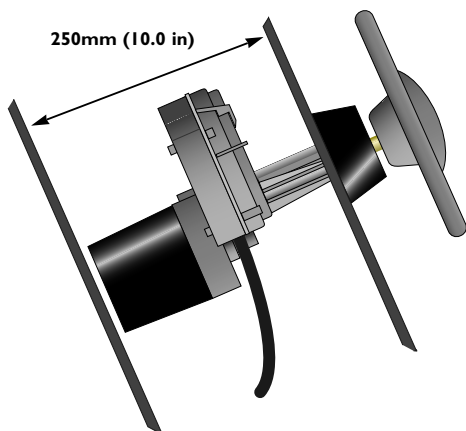

Fig 5.2 - Minimum clearance required
2. There must be a minimum of 250mm (10.0 in) clearance behind the dashboard for the drive unit to fit (Fig 5.2).